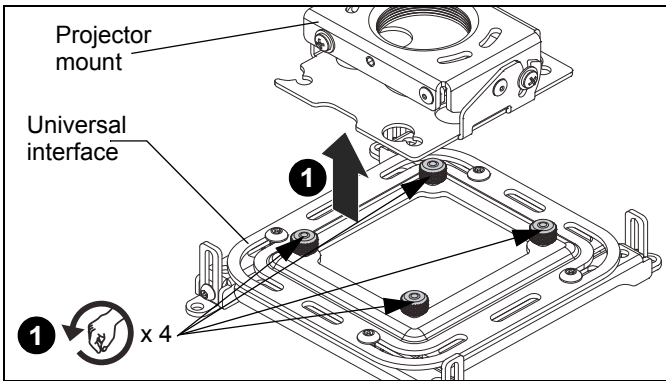

Figure 8
1. Loosen (but do NOT remove) four thumb nuts on universal interface, and remove projector mount from universal interface. (See Figure 8)